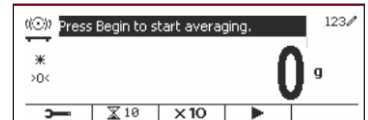

Figure 76
1. Press the  button until the icon corresponding to Dynamic is displayed in the upper left corner of the screen. (See Figure 76)
2. Press the softkey corresponding to the  icon to start averaging. To abort the averaging, press the button corresponding to the  icon. (See Figure 76)